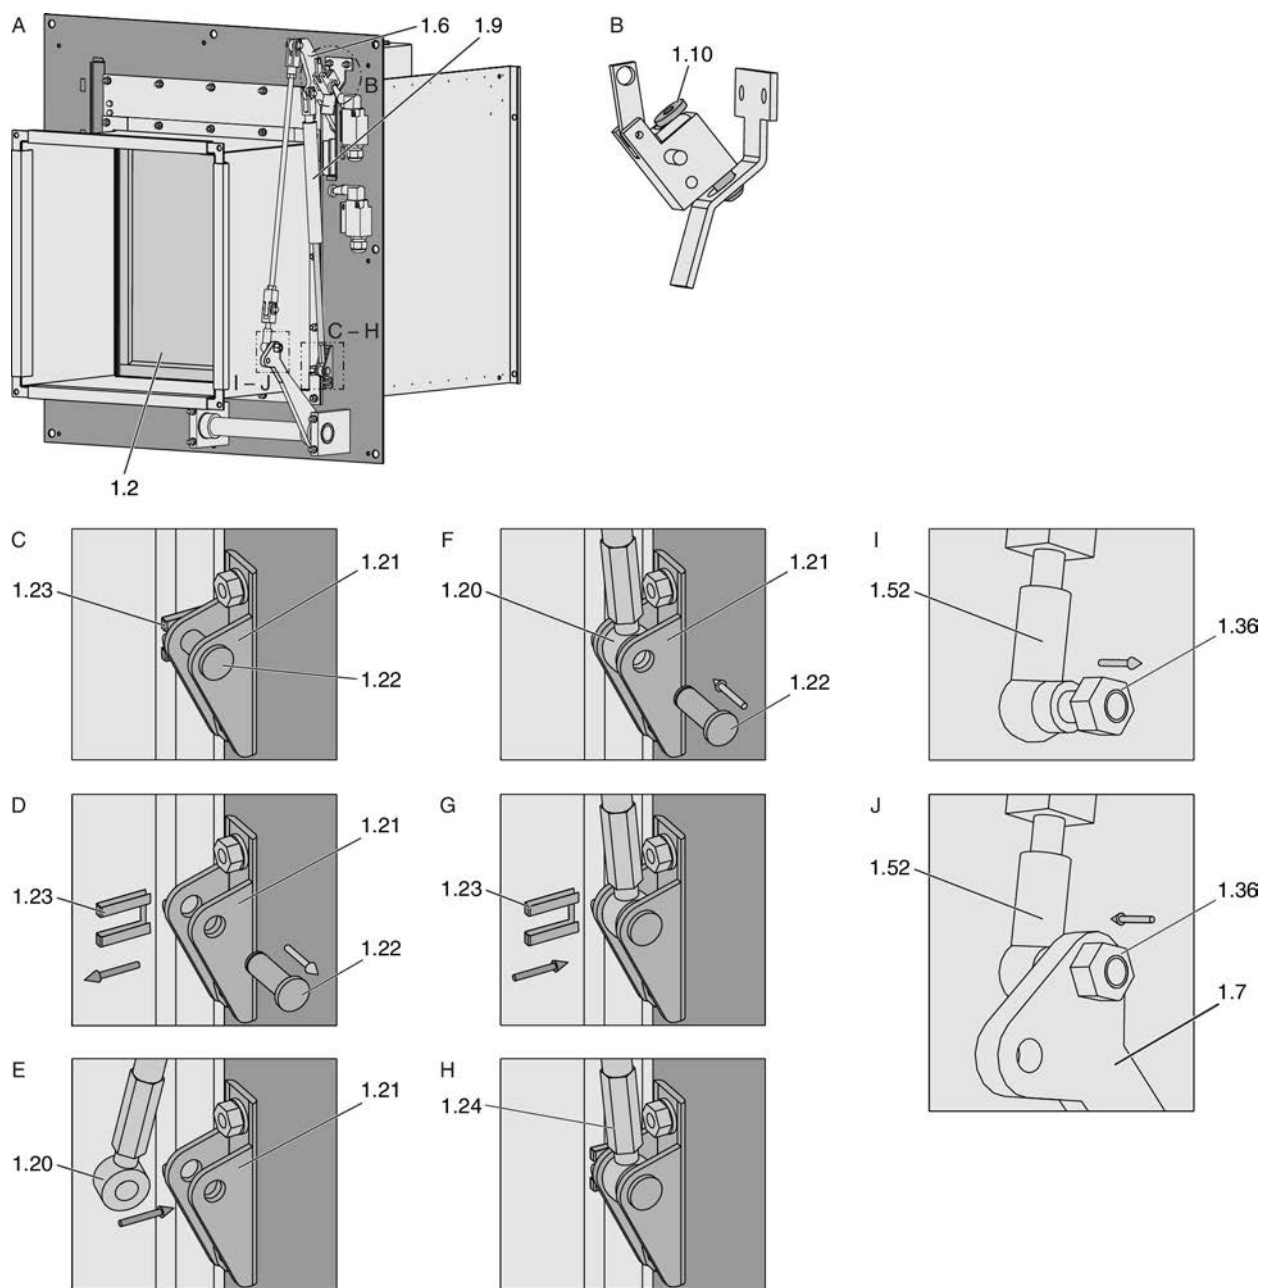

Fig. 9: Installing the gas strut
- Use the blade opening lever 1.6 to close the damper blade 1.2. Ensure that the spring tab bolt 1.10 locks into position and that the damper blade does not swivel out further than 90° toward the ducting, see Fig. 9 Display A and Detail B and "Functional test" ↻ 56.
- Remove bolt 1.22 and locking spring 1.23 from the console 1.21, see Fig. 9 Detail C and D.
- Guide the joint head 1.20 of the gas strut 1.9 into the console 1.21, see Fig. 9 Detail E.
- Insert bolt 1.22 and secure with locking spring 1.23, see Fig. 9 Detail F and G.
- If necessary, adjust the position of the damper blade 1.2 by turning the adjustment device 1.24 on the gas strut 1.9 such that the CLOSED damper blade is at 90° to the duct, see Fig. 9, detail H.
- Unscrew the locking nut M8 1.36 from the angle joint 1.52, see Fig. 9 Detail I.
- Push the threaded end on the angle joint 1.52 through the drilled hole Ø8 mm on the blade opening lever 1.7 (note the marking on the blade opening lever 1.7 and the angle joint 1.52). Screw and tighten the locking nut M8 1.36 to the threaded end on the angle joint 1.52, see Fig. 9 Detail J.